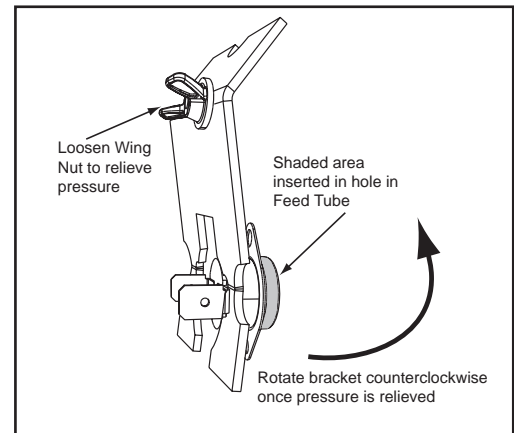

Figure 36.4
- k. When bracket is loose enough, rotate the bracket counterclockwise and away from feed tube. **Figure 36.4.**